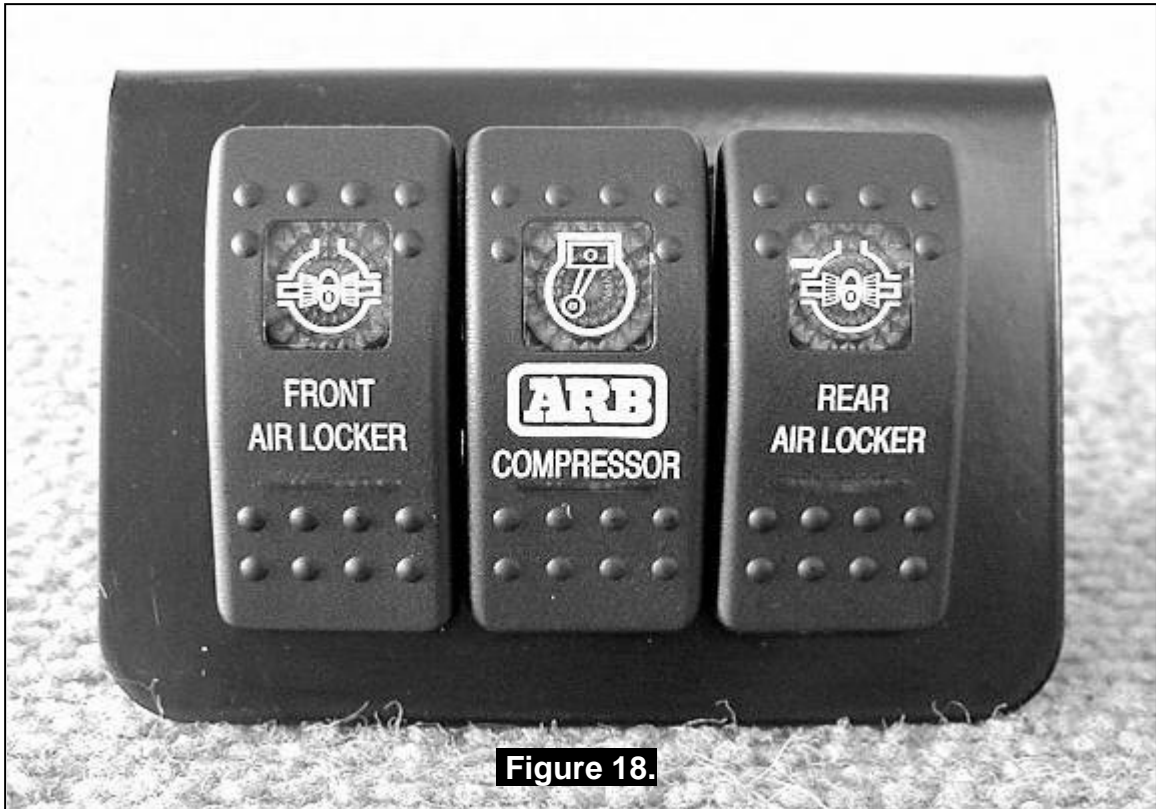

Figure 18.
**NOTE :** If no adequate position can be found on existing dashboard panels, a surface mounted bracket (Fig. 18.) may be purchased from your *ARB Air Locker* distributor to suit 1, 2, or 3 switches.